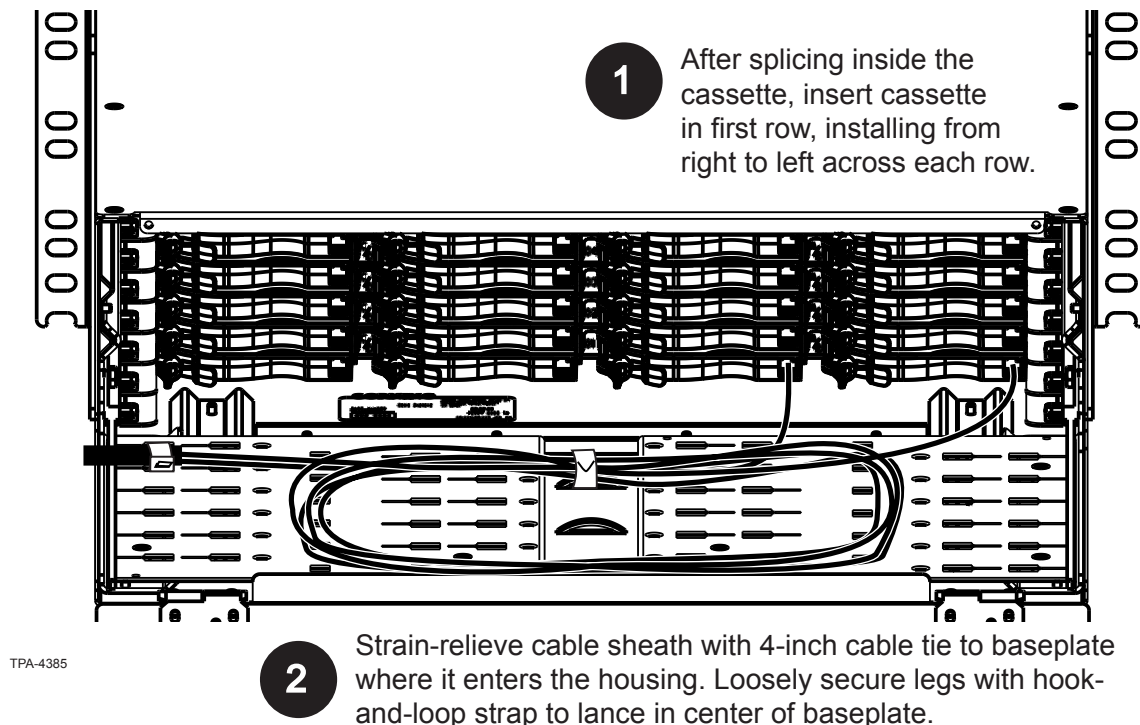

Figure 8
- Step 1:** Starting in the lower right corner of the housing as viewed from the rear (Figure 8), install the first cassette.